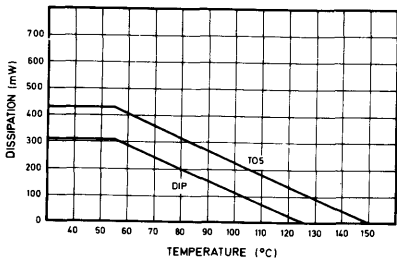

Fig. 15 Ambient operating temperature v. degrees centigrade
- Storage temperature -55°C to 150°C (CM)
-55°C to 125°C (DP)
- Maximum power dissipation See Fig. 15